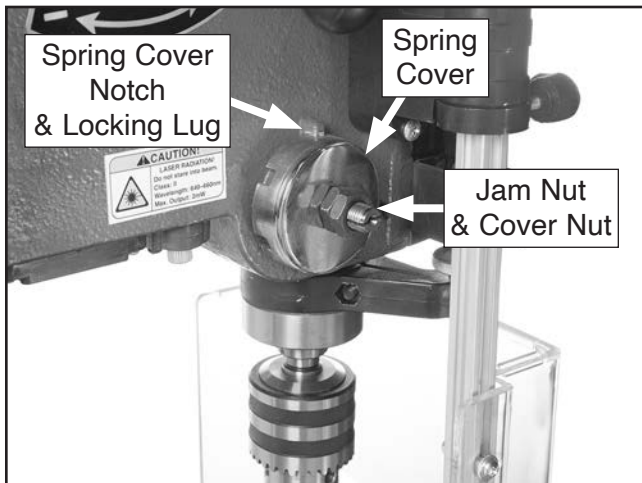

Figure 60. Spring adjustment components (T33960 shown).
The spring tension for automatic quill recoil has been pre-set at the factory. In most cases, it will never need to be re-adjusted during the life of the machine. However, if the quill stops automatically recoiling, the spring may need to be adjusted for additional tension. If it does need adjustment, the spring housing is located on the left side of the headstock (see **Figure 60**).
2. Wipe any oil off spring cover so it does not slip in your fingers in following steps (see **Figure 60**).
3. Hold spring cover against side of headstock so cover stays splined with locking lug, then loosen jam nut and cover nut approximately 1/4" each (see **Figure 60**).
4. Wearing gloves, pull spring cover outward just enough to disengage spring cover notch from locking lug (see **Figure 60**).